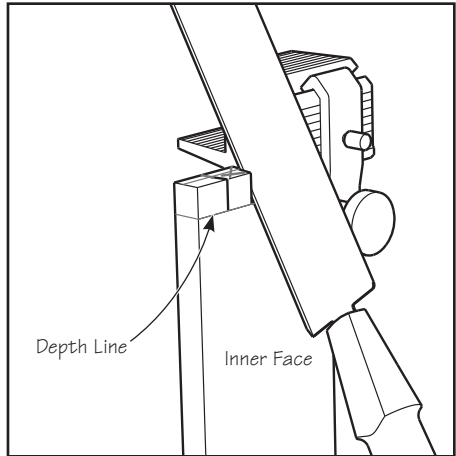

Figure 25: Cutting the pins. Note the angle of the saw.
- Position the saw as shown to cut the pins (**Figure 25**). Note that this will cause damage to the UHMW friction pads due to the tooth set in the blade. Although the pads should still be OK for regular through dovetails, they can be replaced to maintain accuracy.